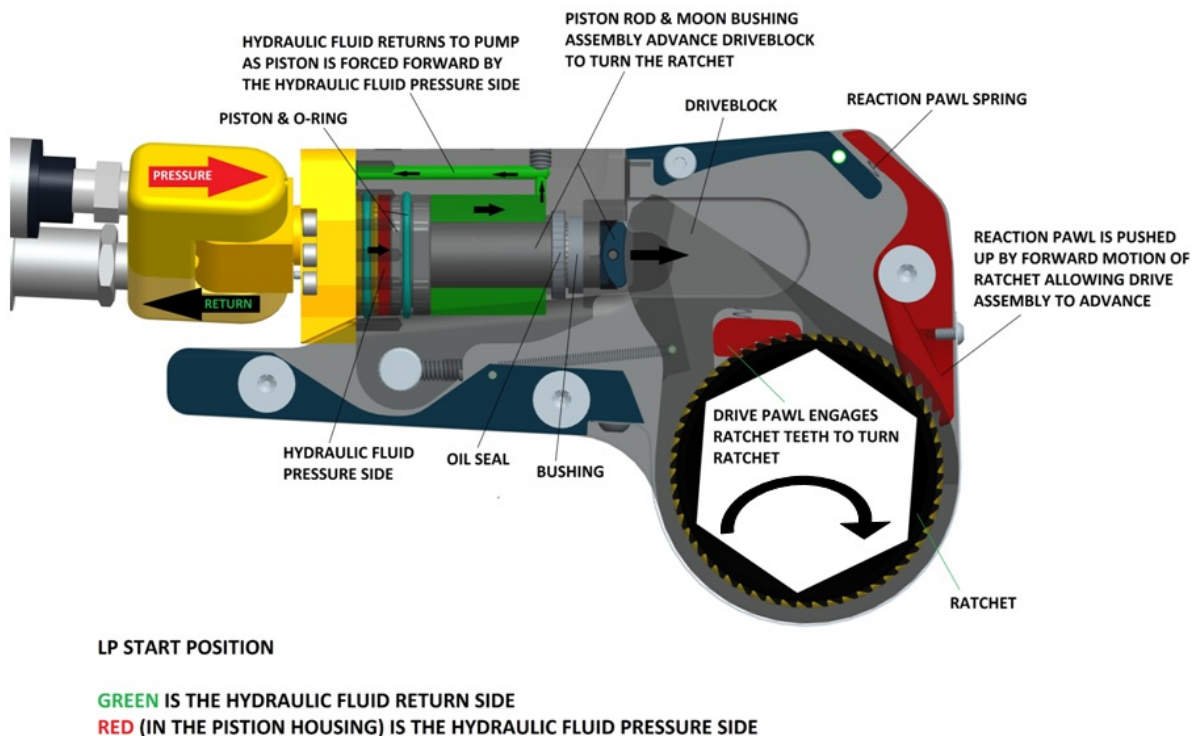

Figure 14 LP Tool Start Position
1. Depress the advance button on the remote control. The tool will spin slightly about the ratchet until the link contacts the reaction point. Figure 14 shows the tool at start position.
2. Flip reaction pawl lever toward reaction arm (See Figure 14) and hold in position.